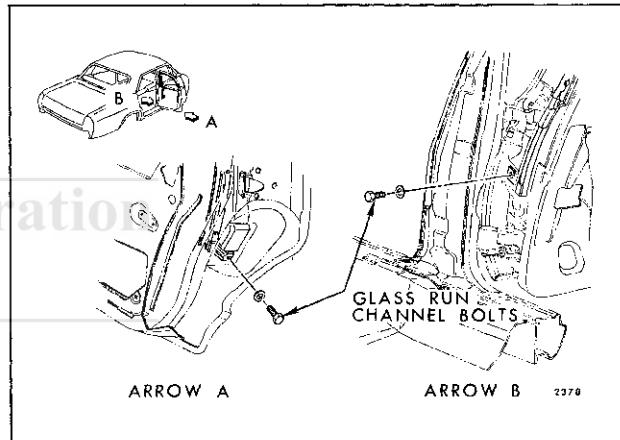

Fig. 6-92—Glass Run Channel Retention - "B" Closed Styles
- Remove glass run channel front and rear attaching bolts (Fig. 6-92).